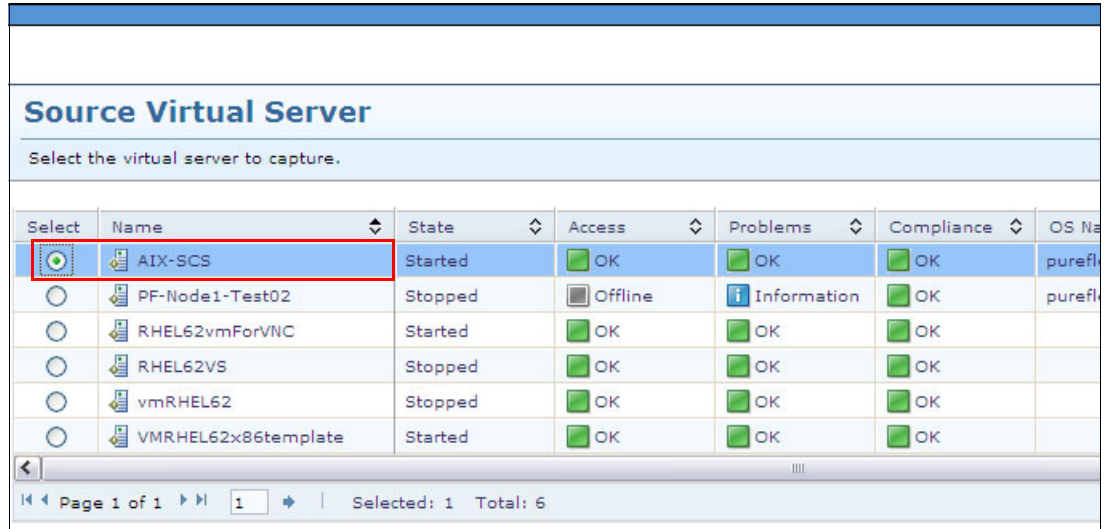

Figure 10-68 Capture: Source Virtual Server
4. Select the source virtual server, as shown in Figure 10-68.